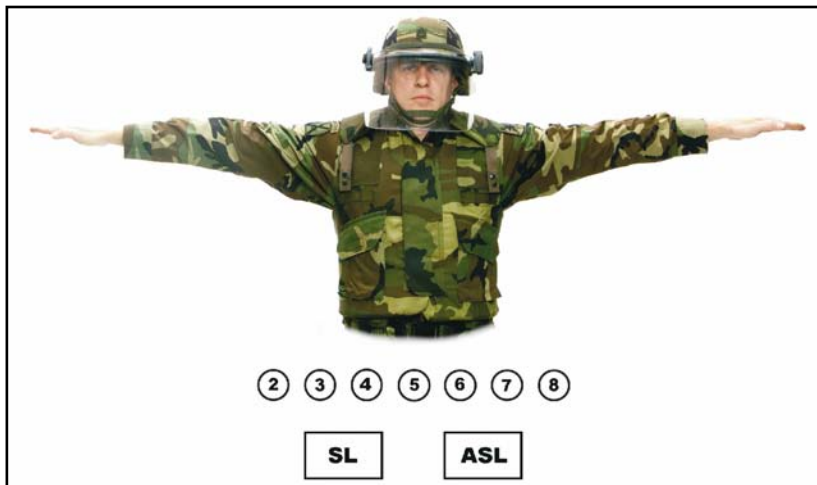

Figure 191-376-4122-4. Hand signal for a squad line formation
4. Form a squad line formation using the hand signal shown in figure 191-376-4122-4. Assume the safe-port position when the command, "Squad as skirmishers" is given, or when the squad leader gives the hand-and-arm signal for a squad line formation.